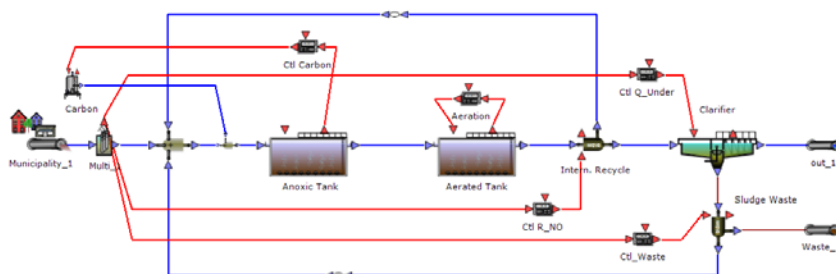

Figure 10.6 Final layout for the TwoASU_PE case
- The necessary blocks and their settings are listed in Table 10.2. You may want to assign the new controllers to the Control Layer, as it was done for the aeration in Chapter 6 ‘The TwoASU Sample, Step-by-Step’. The final layout is shown in Figure 10.6.